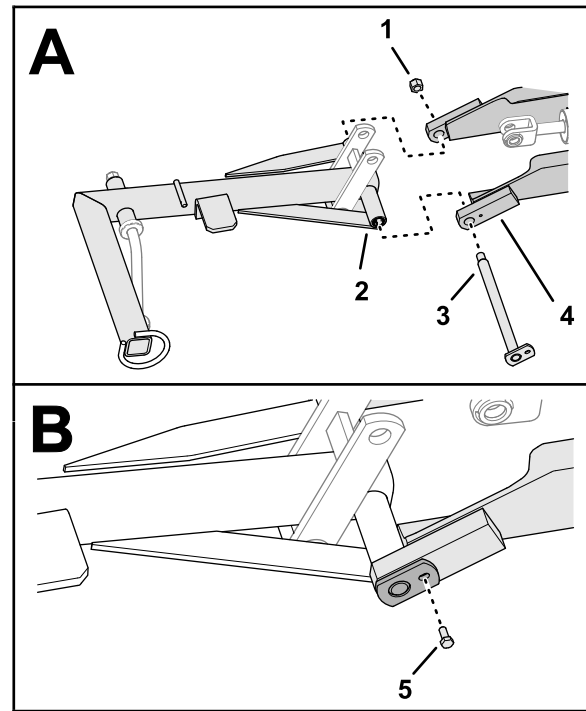

Figure 13
1. Align the hole in the lift-arm tube with the holes in the arm brackets of the cross channels (Figure 13).
2. Loosely assemble the lift arm to the cross channels with (Figure 13) the lift-bail pin and the locknut (3/4 inch).
3. Align the hole in the tab of the lift-bail pin with the threaded hole in the arm bracket (Figure 13), and secure the pin to the bracket with a capscrew (5/16 x 3/4 inch).